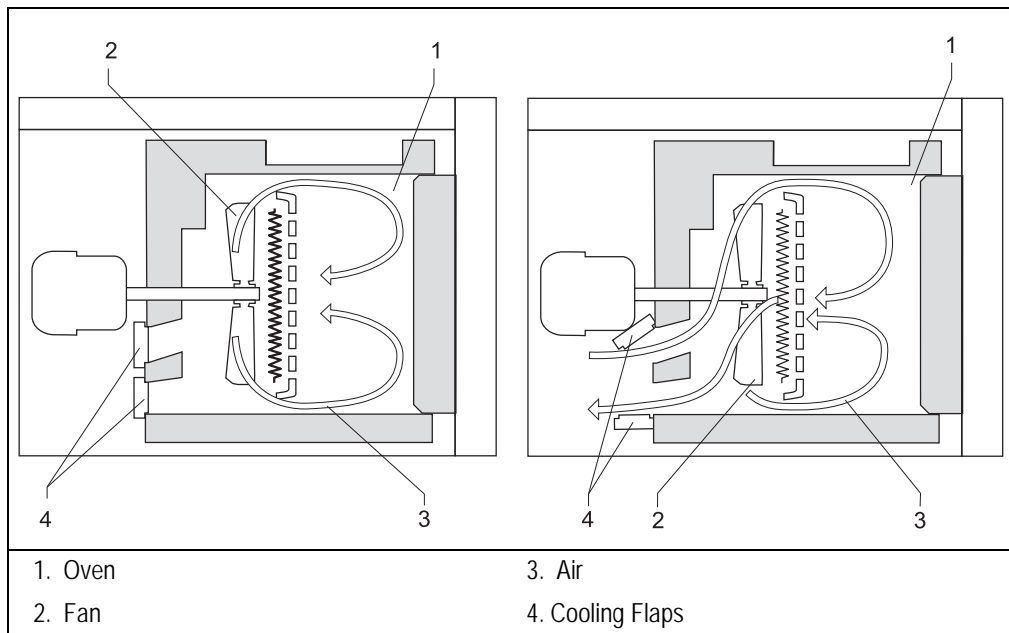

Figure 13-2. Oven Air Circulation
- minimum operating temperature of a few degrees above ambient, which is obtained by two modulated cooling flaps controlled by the GC, shown in Figure 13-2